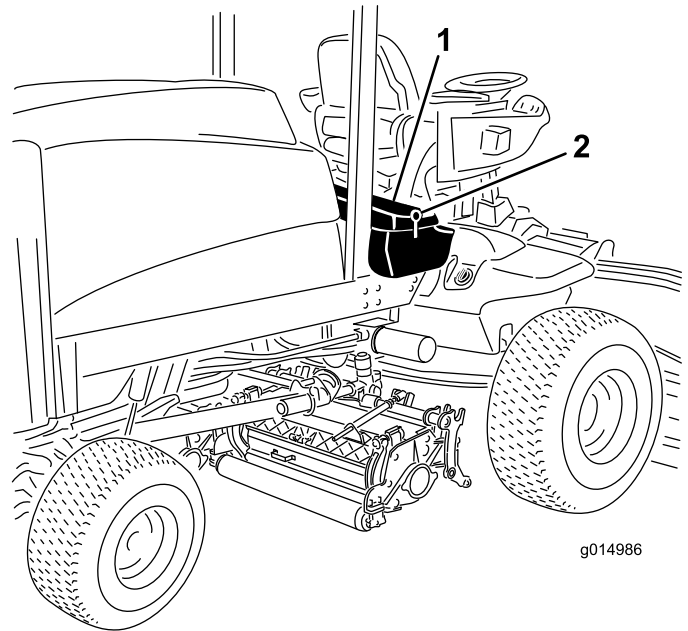

Figure 63
1. Unlatch and raise the operator's console panel (Figure 63).